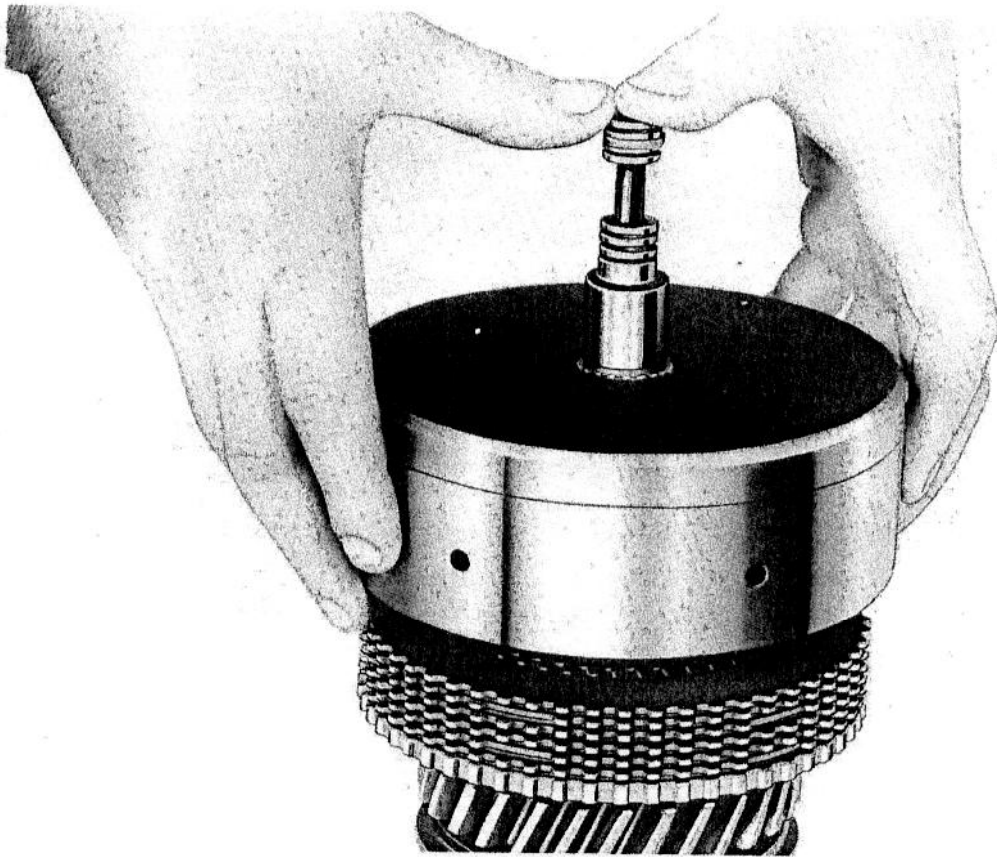

FIG. 24
11. (Fig. 24) Lift off the clutch drum carefully. DO NOT DISTURB THE PLATES IN ANY WAY.